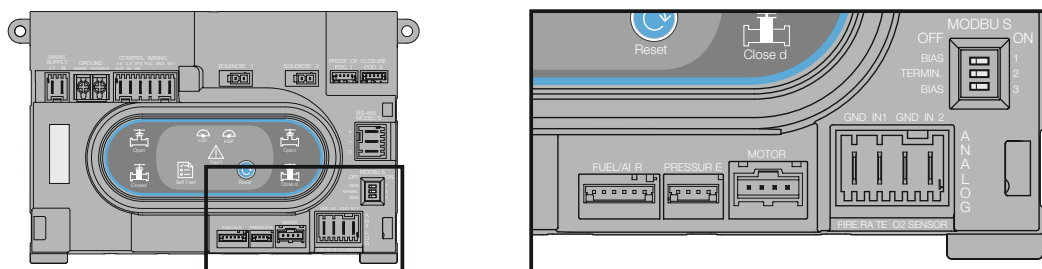

Fig. 3. Pressure Module Connection.
- b. Insert terminating connector in the slot labeled 'PRESSURE'. Refer to Fig. 3.
- a. Insert terminating connector in the slot labeled 'PRESSURE'. Refer to Fig. 3.